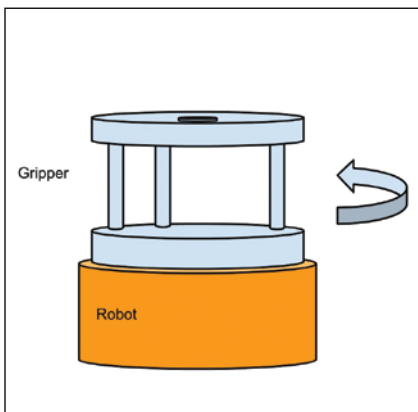

Figure 6. A sketch of the instrument gripper. The instrument is fastened to the uppermost disk of the gripper.
Figure 5. Rod and instrument cars in robotized levelling. The preliminary solutions for rod grippers (G1), instrument grippers (G2) and rod supports (RS) are presented in Figures 6, 7 and 8.
In the proposed method, robots are used as supports for instruments during recordings. Measuring without any extra support is a tempting option, but it is possible that a solution with a pole or more complicated supporting structure is needed. In today's measurements, instruments are mounted on tripods, but this solution is unlikely to work well with robotized levelling. A gripper sketch is presented in Figure 6. In the gripper, an instrument is mounted on the uppermost disk and the second disk is connected to the robot.